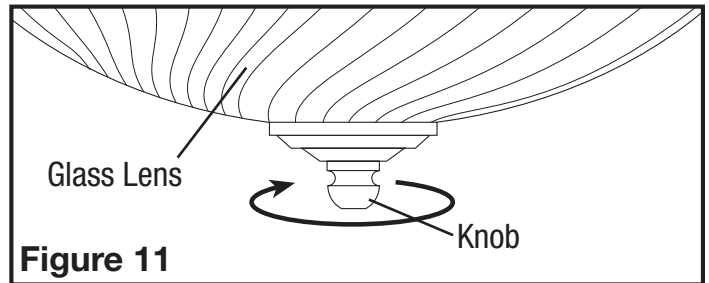

Figure 11
2. Remove glass light lens from grill by unscrewing knob at the top of lens (Figure 11).
3. **Changing the Light Bulb:** Disconnect power to the unit. Remove glass light lens from grill by unscrewing knob at the top of lens (**Figure 11**). Replace light bulb(s) with 60 watt maximum, type A19 medium base incandescent bulb(s).